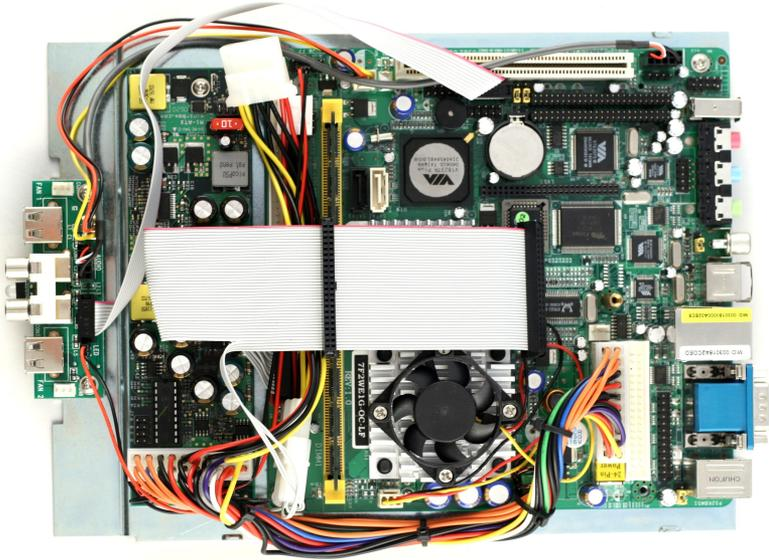

Figure 1.0, bottom mounting plate
- 1) Install the motherboard, Front Audio / USB board and Power Supply on the base plate using M3 screws. (See figure 1.0)